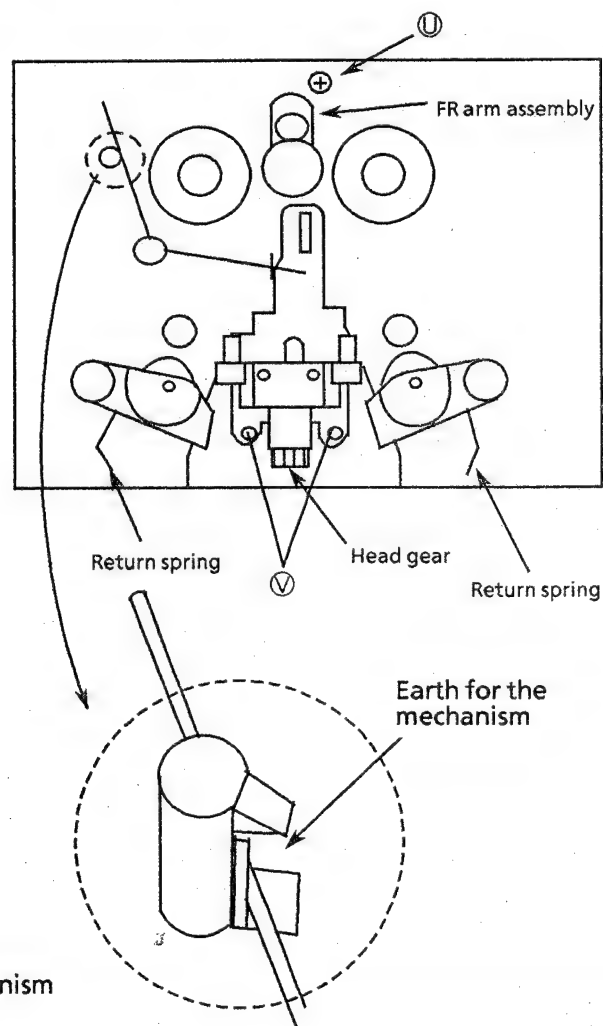

Fig.14 Front view of the cassette mechanism
1. Release the return springs from the hooks (Fig. 14).
3. Remove the fr arm assembly (Fig. 14).
4. Remove the screws ① fixing the motor.